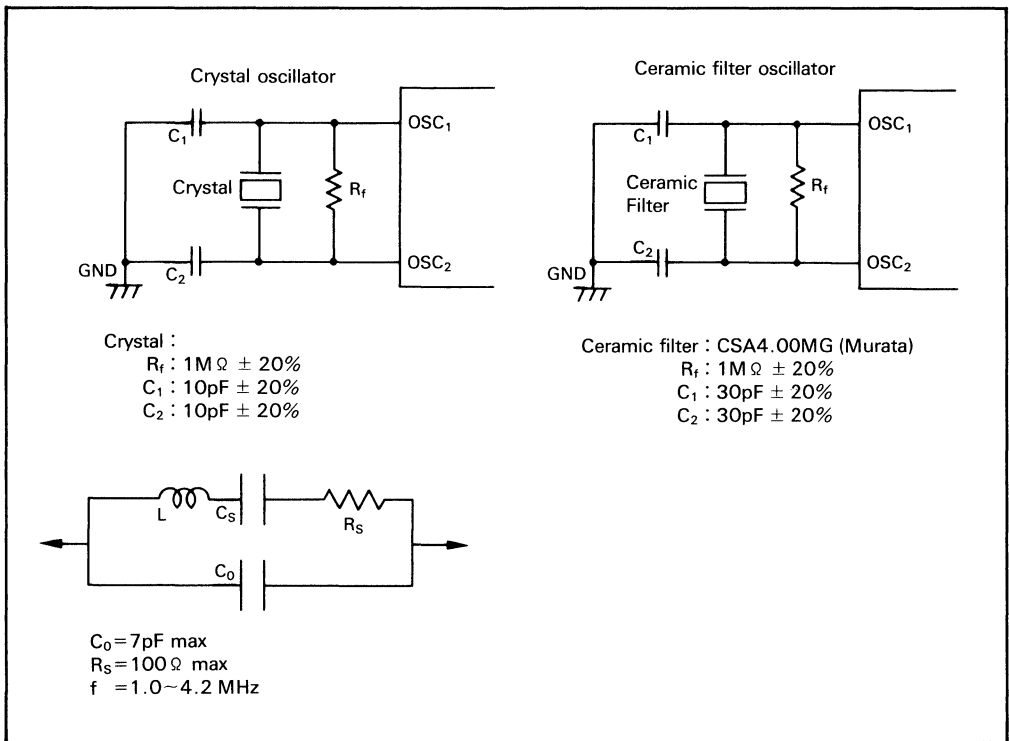

Figure 46. Oscillator Circuit
1. Oscillator stabilization time is the time until the oscillator (see Figure 46) stabilizes after V_{CC} reaches 4.0V after power-on, or after RESET goes high. At power-on or STOP mode release, RESET must be kept high for at least t_{RC} . Since t_{RC} depends on the ceramic filter's circuit constant and stray capacitance, please get the manufacturer's advice when designing the RESET circuit.